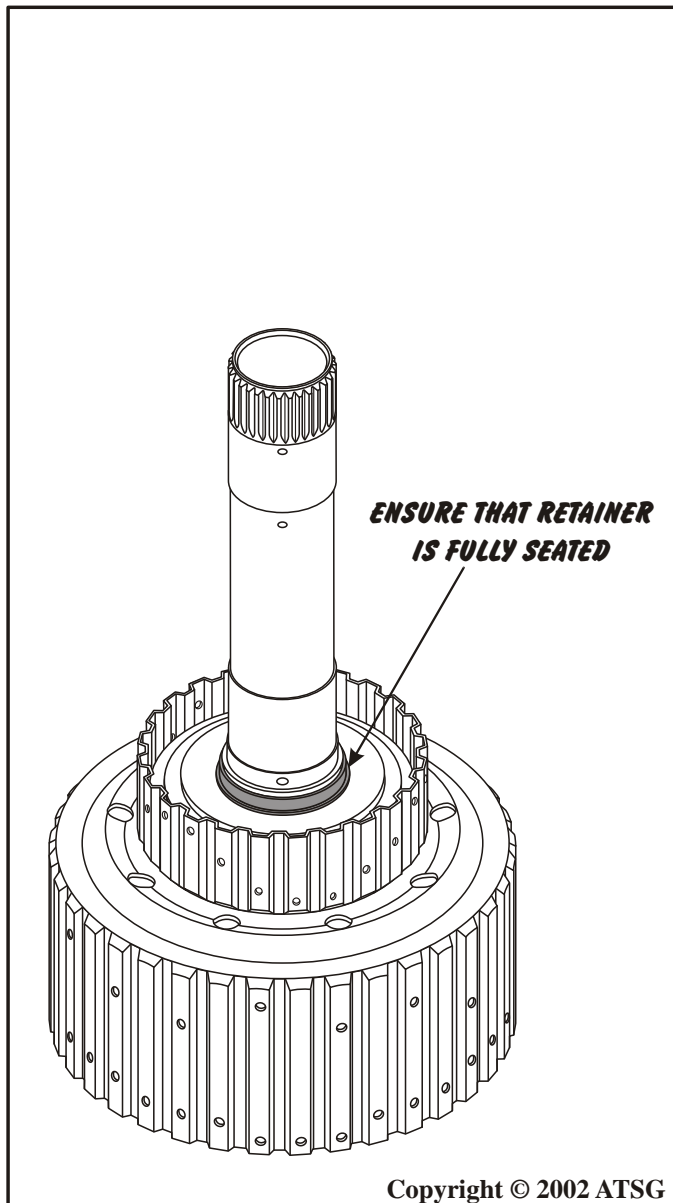

Figure 113
16. Ensure that the "New" retainer is fully seated, shown in Figure 113.